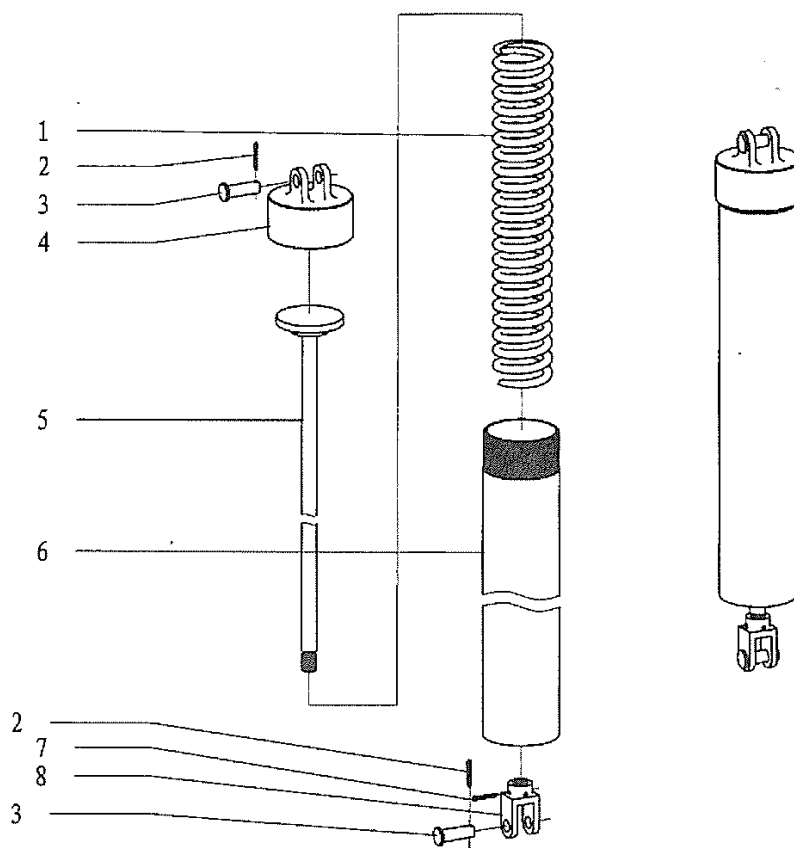

Fig28.
8.17 Spring lifter (Fig28. Table28)